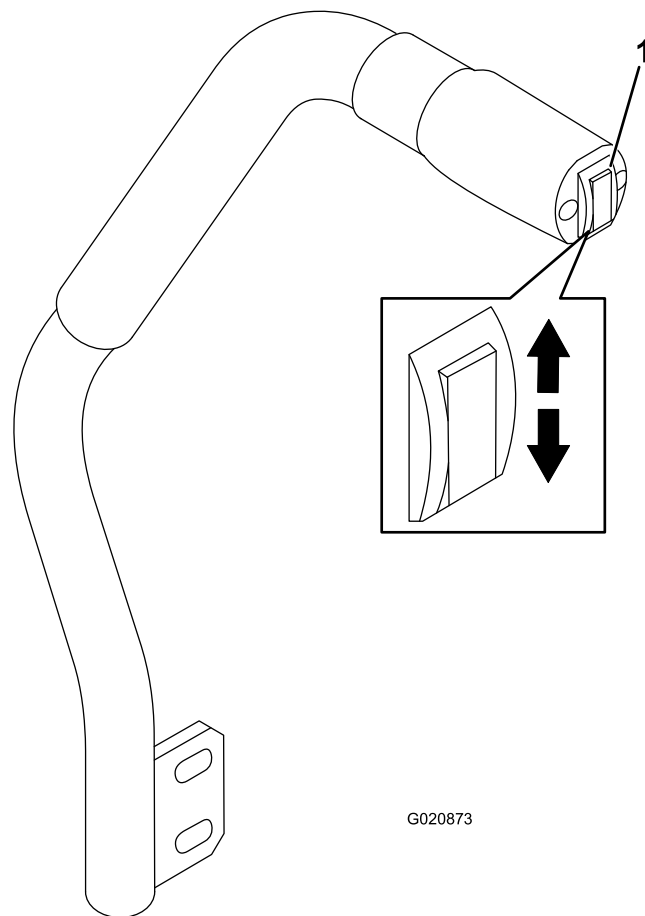

Figure 50
The deck-lift switch raises and lowers the mower deck (Figure 50). The engine must be running for you to use this lever.
- To lower the mower deck, push the deck-lift switch down (Figure 50).
- To raise the mower deck, push the deck-lift switch up (Figure 50).